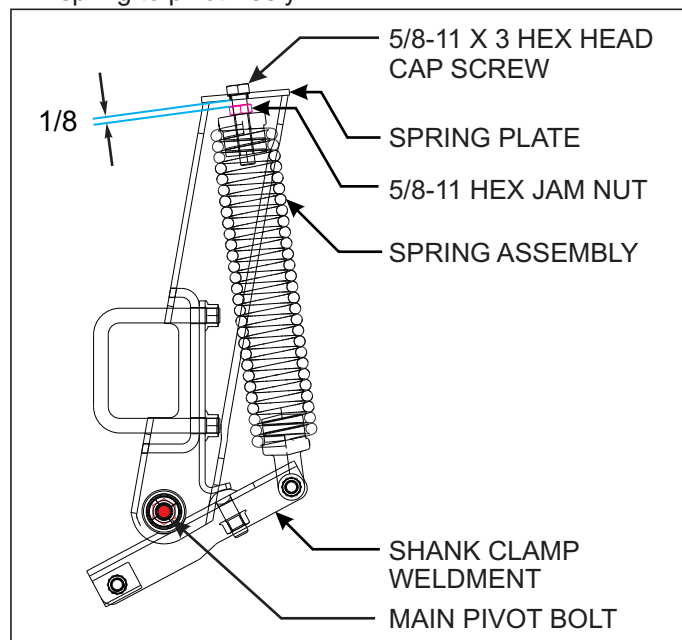

Figure 4-14: Spring Adjustment
3. When adjusting or assembling the spring assembly, tighten the upper spring bolt, but leave approximately 1/8" gap above the spring jam nut See Figure 4-14. This will leave the proper clearance for the spring to pivot. Lock the jam nut against the top of the spring, not the top of the mount. Likewise, do not over tighten the lower spring cross bolt. Remove any slack in the bolt, but still allow the lower spring to pivot freely.